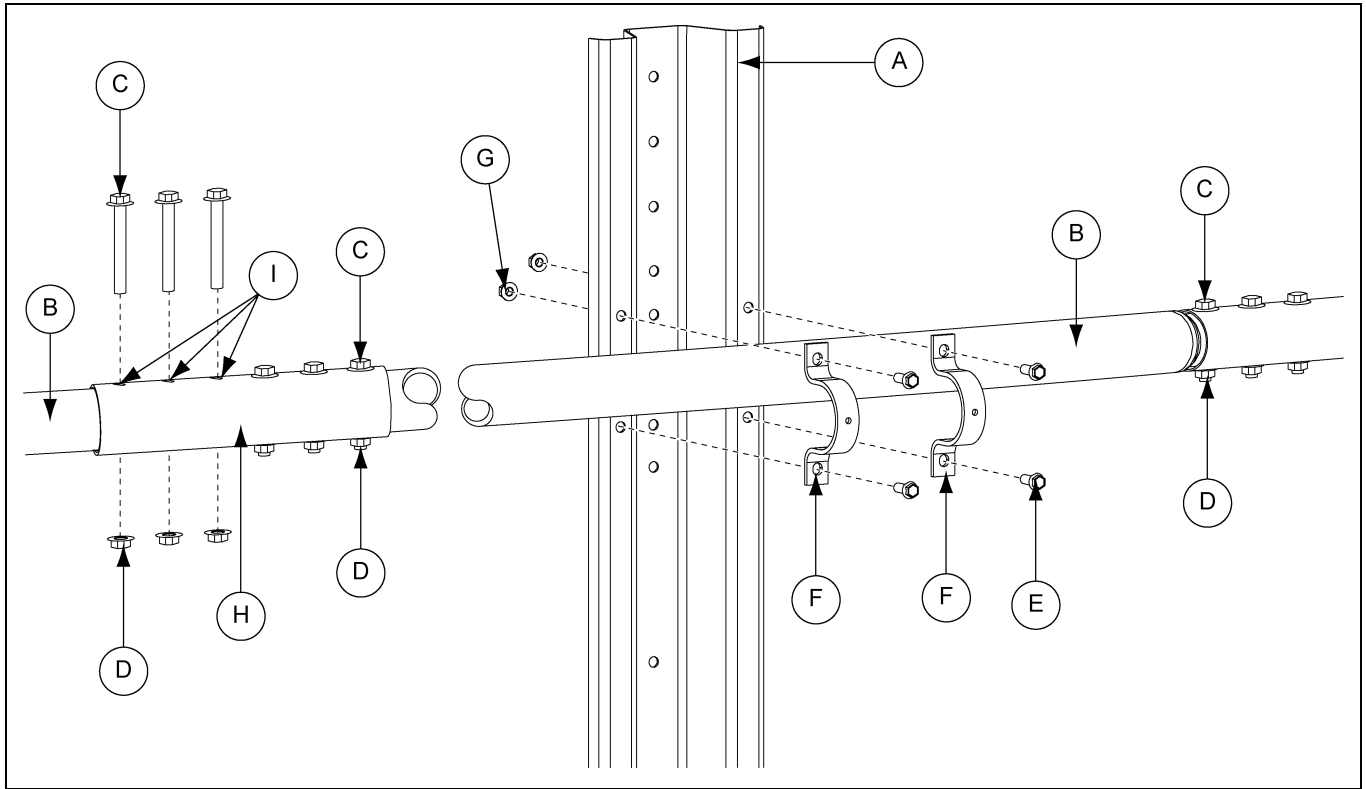

Figure 13B Exploded View of Wind Ring Installed at Upper Portion of Stiffener
5. Slide the wind ring coupling collar (H), aligning the three (3) pre-drilled holes and install flange bolts (C) and hex nuts (D). Field drill the remaining three (3) holes (I) using the wind ring coupling collar (H) as a guide or template. (See Figure 13B on Page 55.)
6. Install the remaining flange bolts (C) and hex nuts (D) and tighten all hardware to the recommended torque specifications. See bolt torque specifications on Page 38.